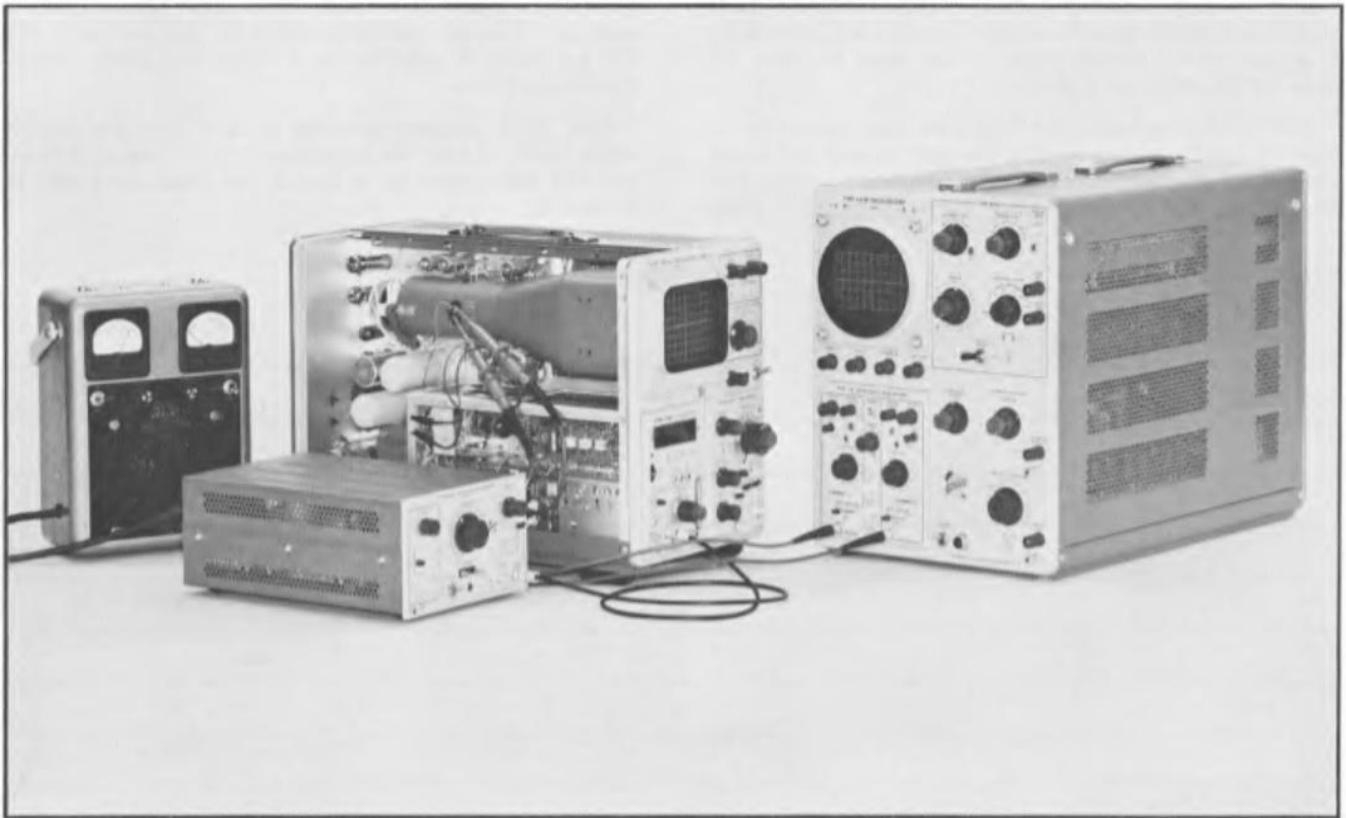

Fig. 6-8. Test setup for checking compression/expansion.
Connect a 50 ohm (BNC connector) coaxial cable from the Calibrator right side Output connector to the Type 3A5 INPUT connector. Connect two 10X probes to the Type 1A1 input connectors. Compensate both probes, and check that the display gain (.05 V/Cm Gain) control of both channels is properly adjusted. Connect the two probe ground clips to the Type 3A5 chassis, and the probe tips to the crt vertical deflection plate pins. See Fig. 6-8.
- a. Set up test equipment and connections as shown in Fig. 6-8.